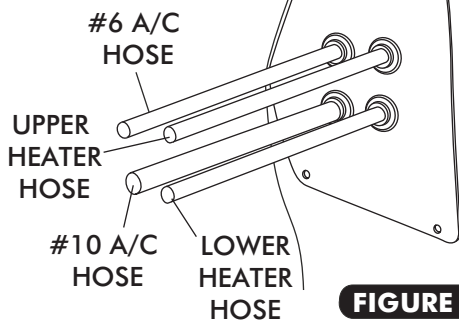

FIGURE 6
- ROUTE A/C AND HEATER HOSE THROUGH FIREWALL BLOWER COVER AND KICK PANEL COVER AS SHOWN IN FIGURE 6 AND 6c, BELOW.